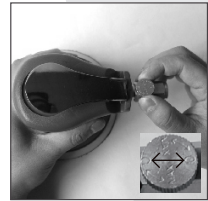

Figure 3
WARNING! When connecting the air hose, keep the knob of air inlet regulator (Part #37) in "ZERO" position by turning the knob either clockwise or counterclockwise. (See Figure 3)
6. Mount the dust bag to the dust tube by tying the string tight around the tube end. (See Figure 3)